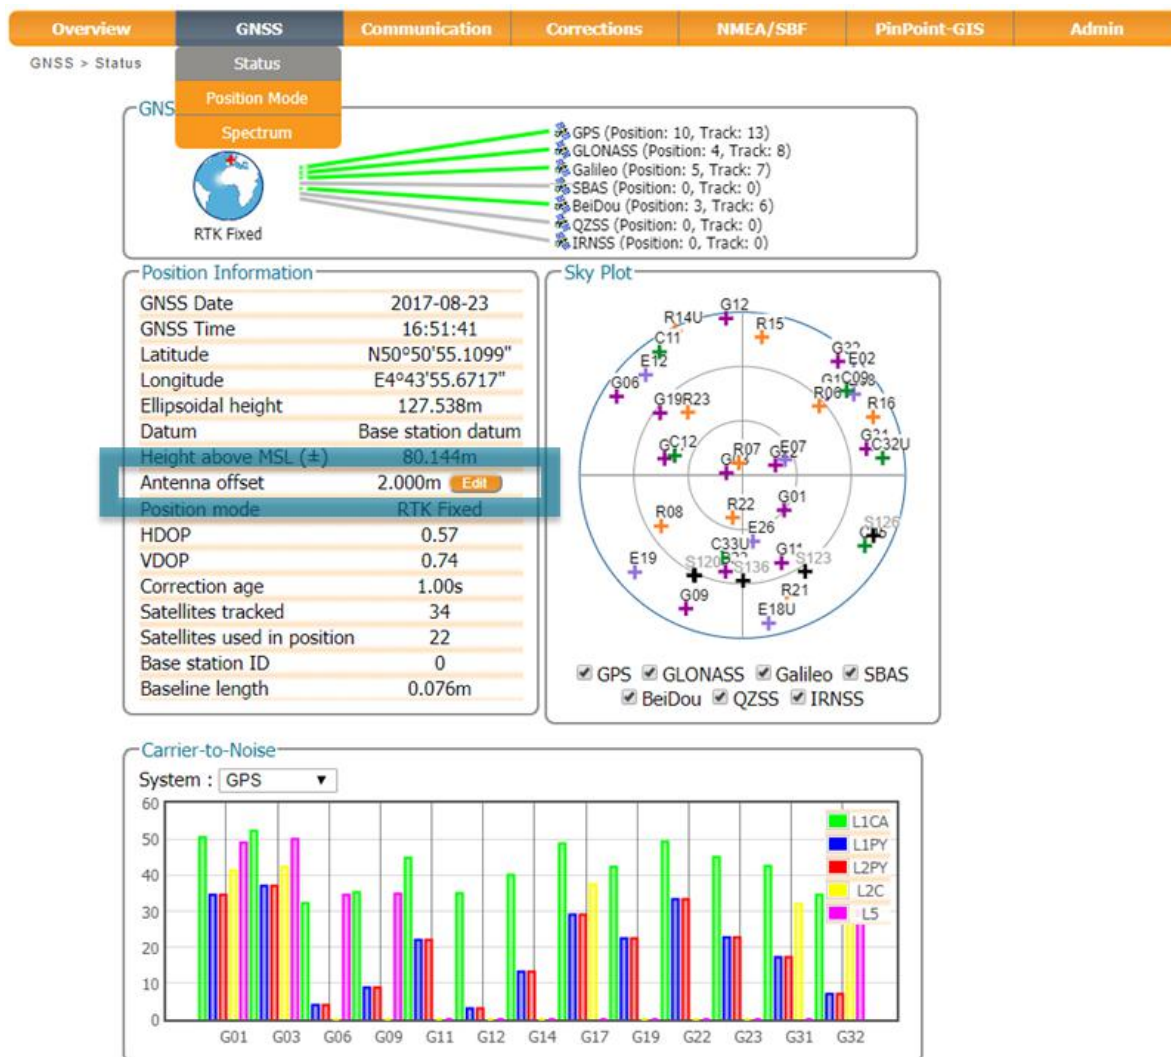

Figure 4-20: GNSS Tab: setting Antenna Offset
2. Click 'Apply' when finished. In the example shown in Figure 4-20, an offset of 2.0 metres was used.